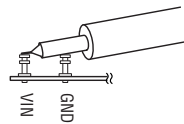

Figure 1. Measuring Input or Output Ripple
The DC1592 is easy to set up to evaluate the performance of the LTC3577-3 and LTC3577-4. Refer to Figure 1 and Figure 2 for proper measurement equipment setup and follow the procedure below to evaluate using the DC590B board:
5. Connect DC1592 to the DC590B USB Serial Controller using the supplied 14-conductor ribbon cable as shown in Figure 1.
6. With power off, connect a 5V, 1A power supply to VUSB and GND with a series ammeter and a voltmeter as shown in Figure 1.
7. Connect a battery or a battery simulator set to 3.6V between BAT and GND with a series ammeter and a voltmeter as shown in Figure 1.